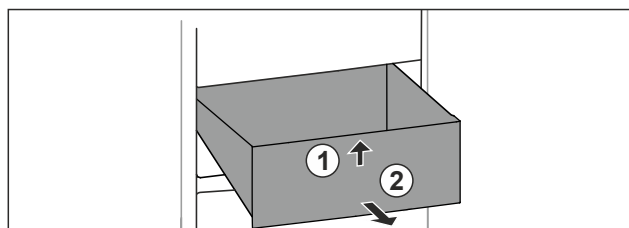

Fig. 68
- ▶ Lift up drawer at the front. *Fig. 68 (1).*
- ▶ Remove drawer to the front. *Fig. 68 (2).*